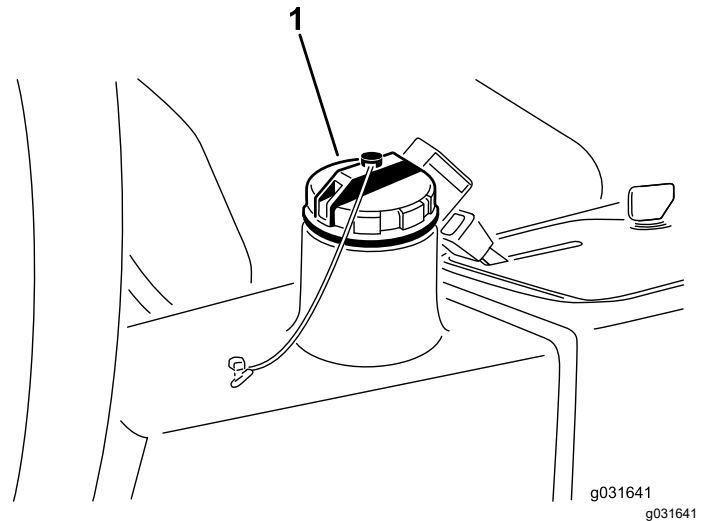

Figure 66
4. Fill the reservoir (Figure 66) with approximately 13.2 L (3.5 US gallons) of hydraulic fluid; refer to Hydraulic Fluid Specifications \(page 55\) and Checking the Hydraulic Fluid Level \(page 55\).